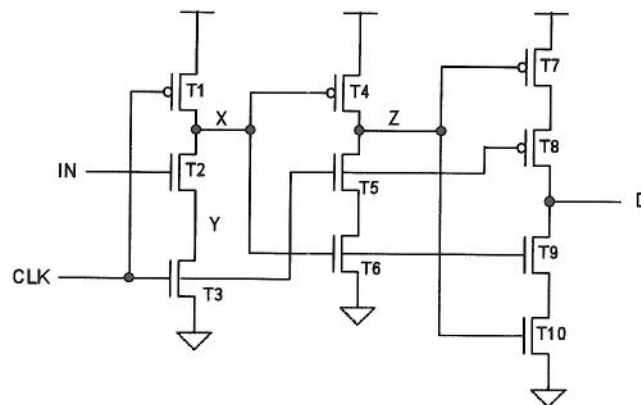
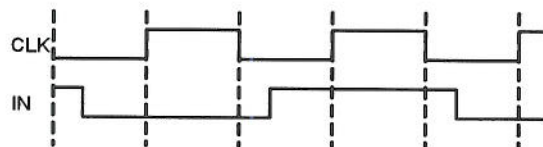

Figure 6.1
Figure 6.2
6. a) Figure 6.1 shows the transistor-level schematic diagram of a latch circuit. Given that the timing diagram for the input signals CLK and IN is as shown in Figure 6.2, draw the timing diagram for the signals at X, Y, Z and D. Label your timing diagram indicating the various states of the signal nodes as: